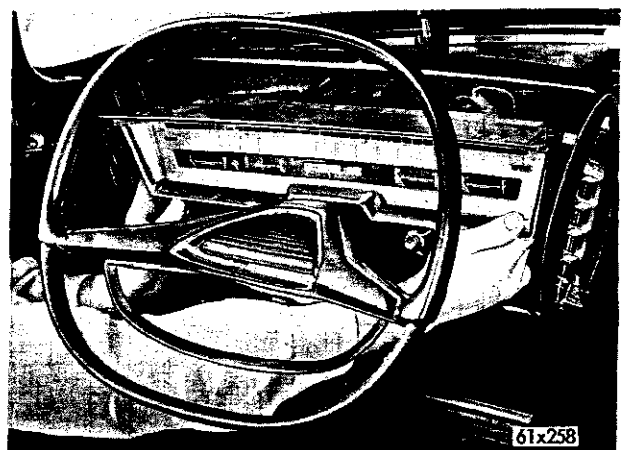

Fig. 100—Removing the Instrument Cluster (Imperial)
(4) Remove the five screws securing the instrument cluster to the instrument panel. Carefully remove the instrument cluster (Fig. 100) by tilting the lower end of the cluster outward.